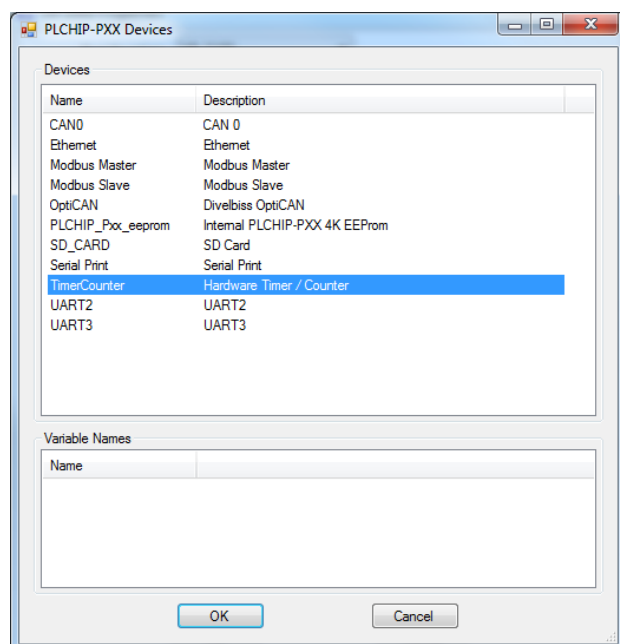

Figure 2-3 - PLCHIP-PXX Devices Window
3. Click the **ADD DEVICE** button. The *PLCHIP-PXX Devices* window will open. Locate the TimerCounter in the Devices pane of this window. Refer to Figure 2-3.